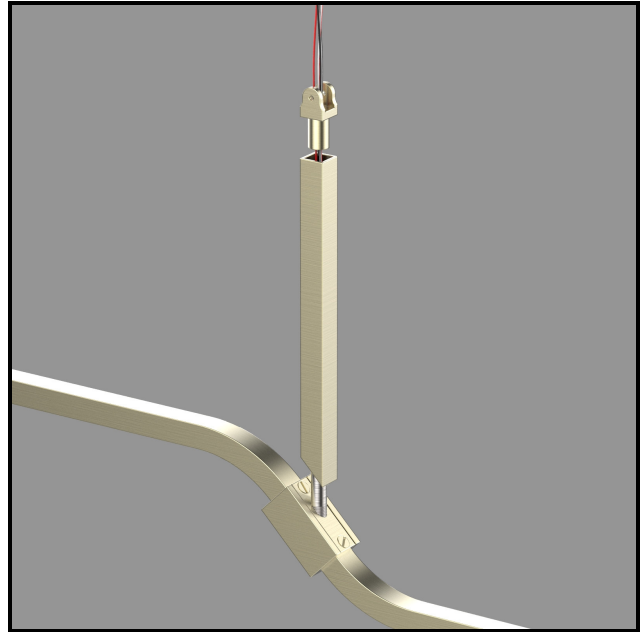

Figure 4
- Slide square stem casing over steel tube. (Figure 4)